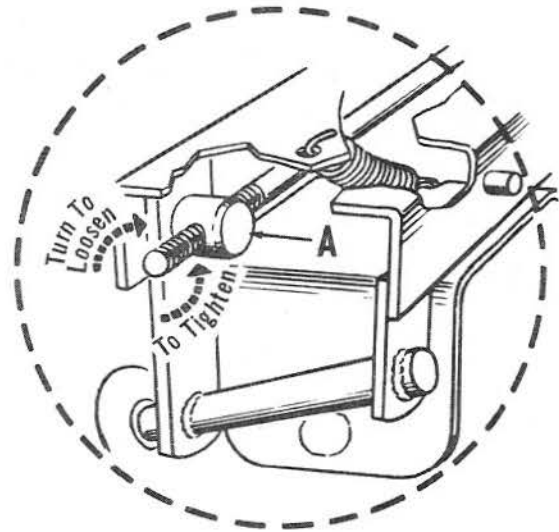

FIG. 12
13. Refer to Fig. 8. Assemble adjusting pin (C) to idler shaft (A), and secure with retainer spring (D), as shown. Adjust for proper belt tension, see Belt Adjustment, page 6, Fig. 12.
Turning the adjusting pin (A, Fig. 12), adjusts the belt. Remove retainer spring (D, Fig. 8), and turn adjusting pin (A, Fig. 12), in a counter-clockwise direction (when standing in front of the tractor), to tighten belt. Belt tightener lever (B, Fig. 2), requires a fair amount of effort to engage lever (push forward), when belt is properly adjusted. Belts that slip wear out rapidly. Keep belt properly adjusted to prevent premature failure. Replace retainer spring in adjusting pin.